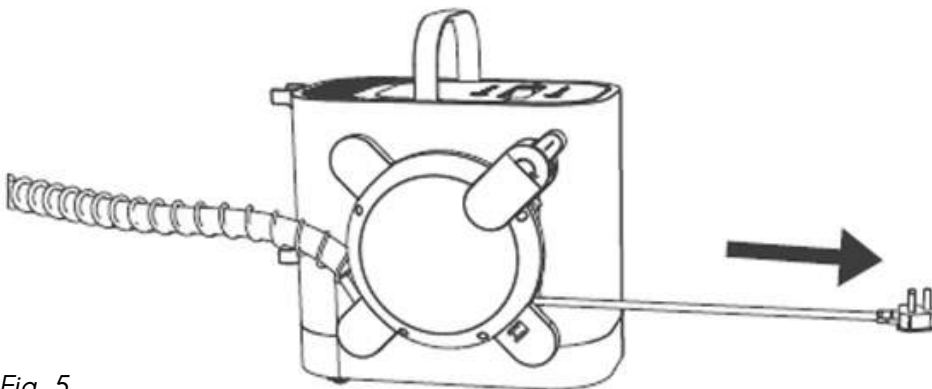

Fig. 5
3. Pull the power cord from the auto cord-winding rack (see Fig.5).